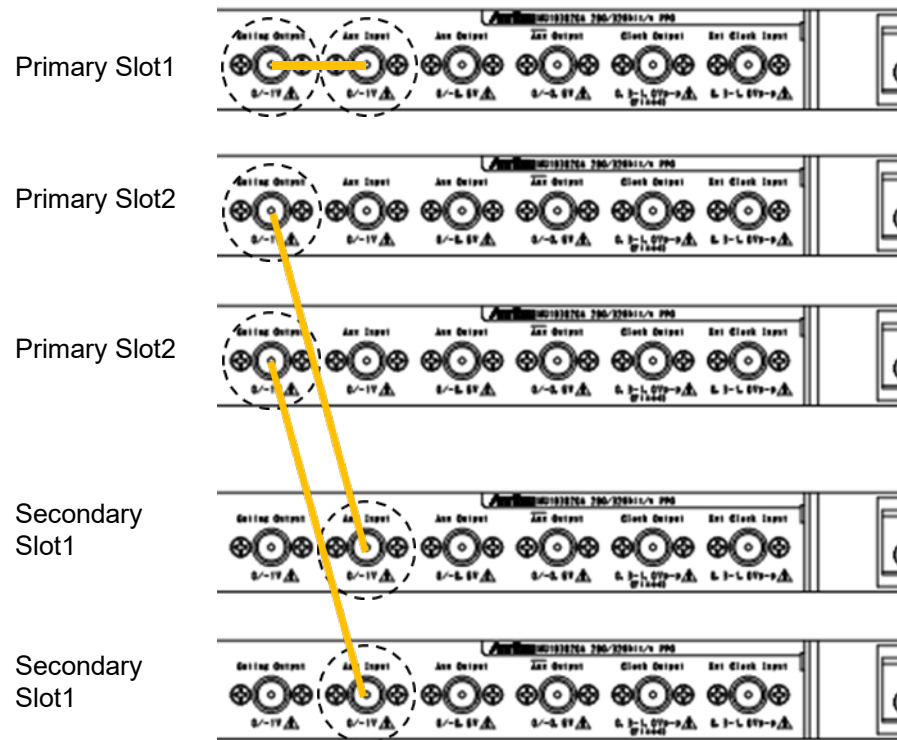

Figure E.1.1-1 MU183020A Connection Examples
2. The **Gating Output** connector of the MU183020A module in Slot 1 of the primary MP1800A is connected to the **AUX Input** connector of the same module (Figure E.1.1-1).
3. The **Gating Output** connectors of the MU183020A modules in Slot 2 to Slot 4 of the primary MP1800A are connected to the **AUX Input** connectors of the MU183020A modules installed in Slot 1 of each secondary MP1800A (Figure E.1.1-1 and Figure E.1.1-2).